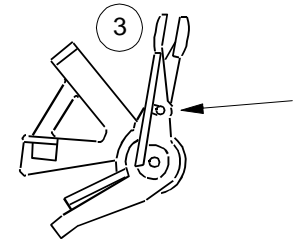

Figure 3
- ● Assemble the three levers together (figure 3). Lever 2 (upper paper release) onto lever 1 (paper pressure lever), and lever 3 (lower paper release) onto lever 2. Observe that the little plug of lever 2 is fitted in the hole provided in lever 3.